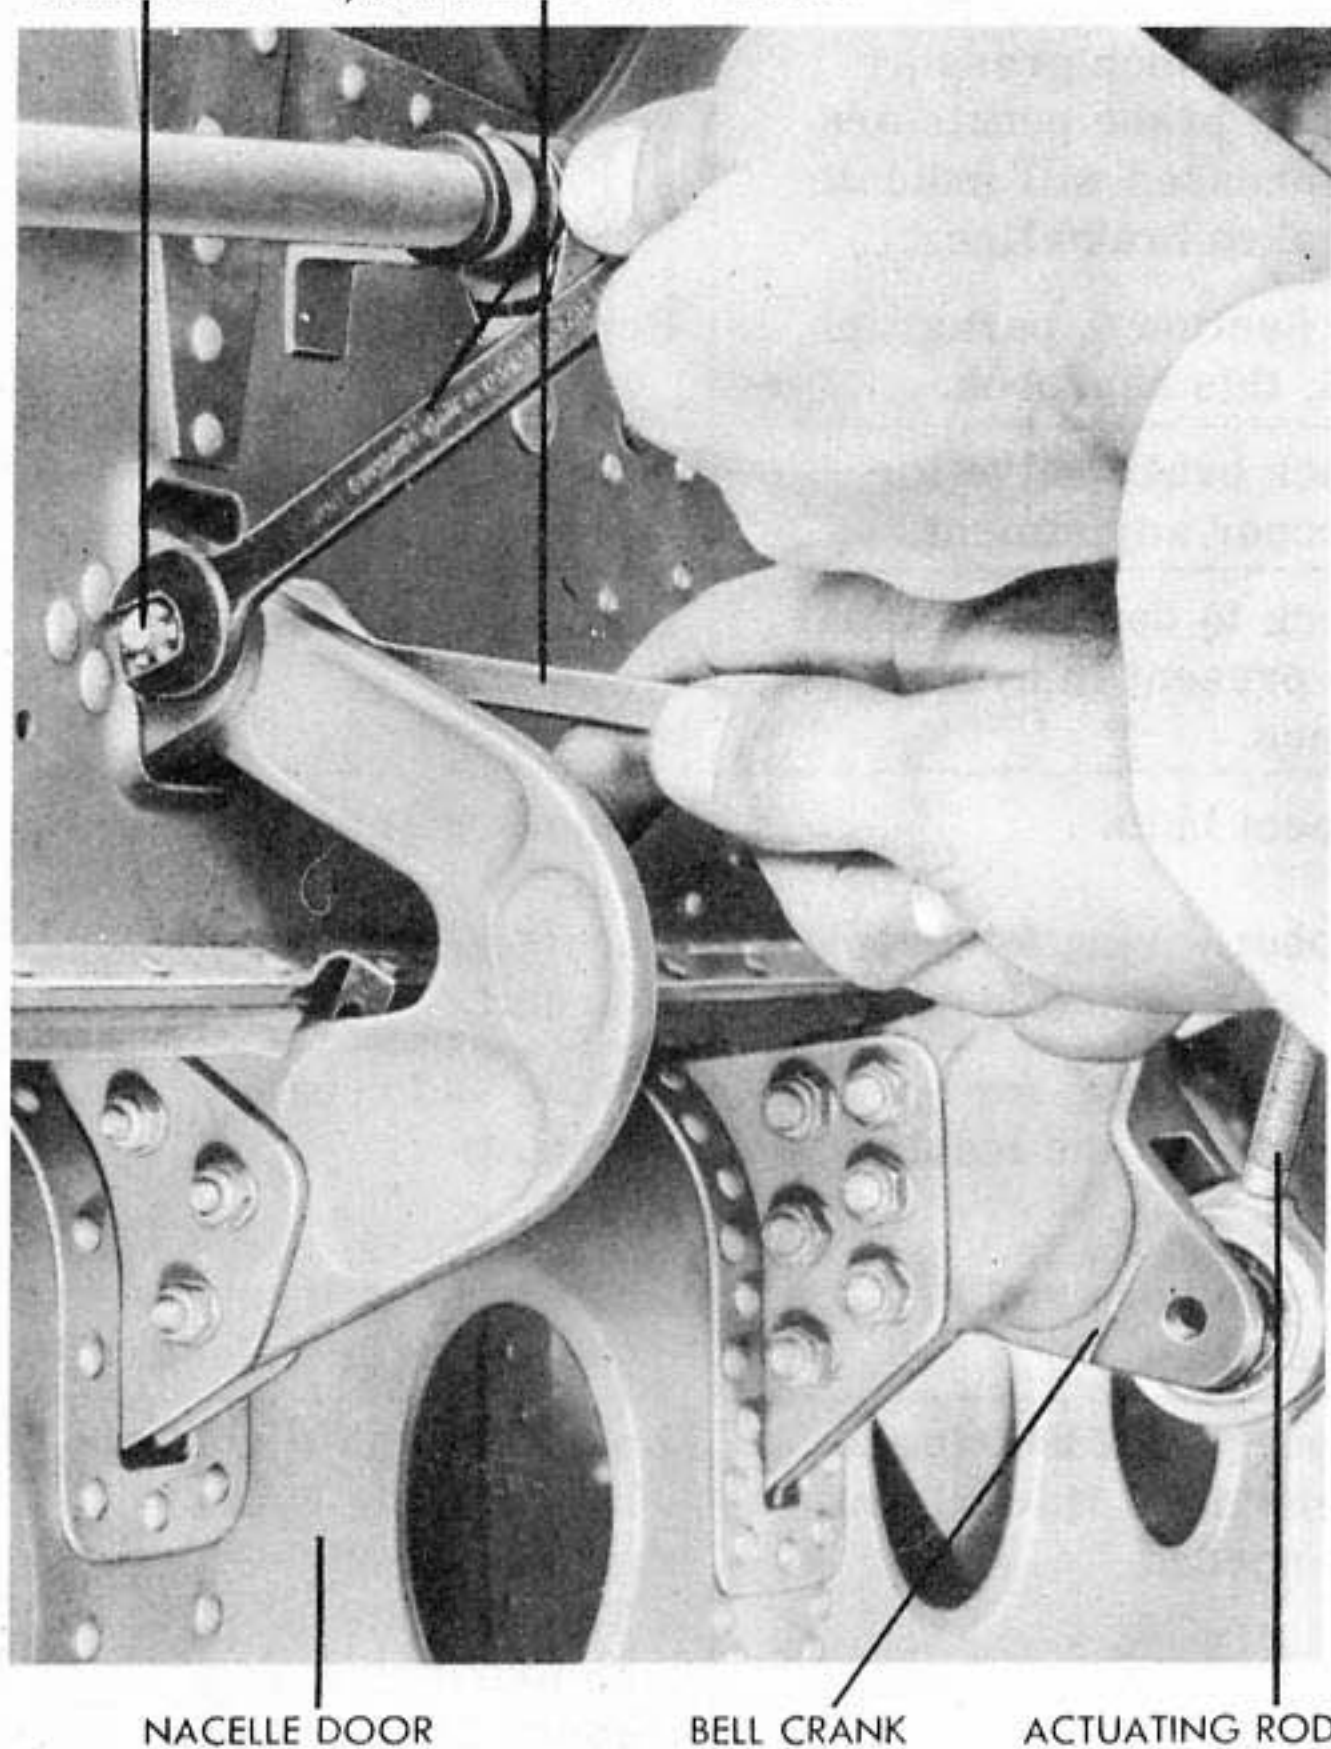

Figure 66 - REMOVING NACELLE DOOR
(1) REMOVAL OF NACELLE DOORS. (See figure 66.)